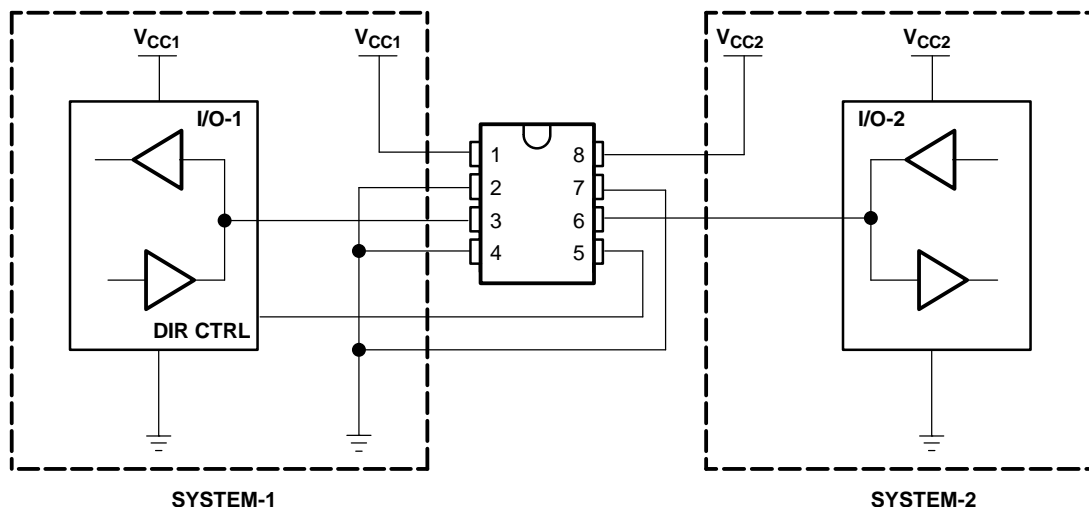

Figure 13. Bidirectional Logic Level-Shifting Application
Figure 13 shows the SN74AVCH2T45 used in a bidirectional logic level-shifting application. Since the SN74AVCH2T45 does not have an output-enable (OE) pin, system designers should take precautions to avoid bus contention between SYSTEM-1 and SYSTEM-2 when changing directions.